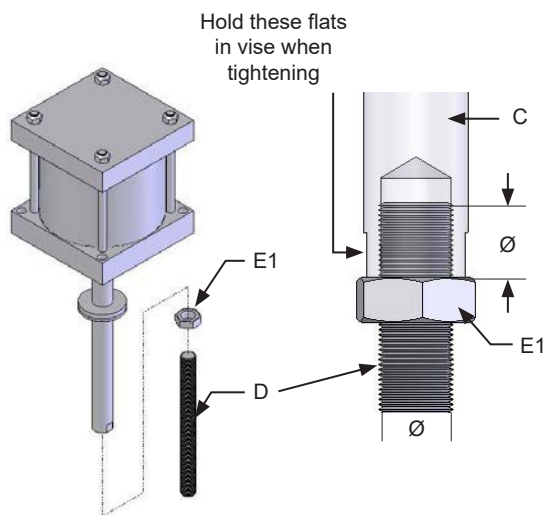

Figure 39. Engagement depth of Stud Extension (Rod Extension shown transparent for clarity)
5. Measure major diameter of STUD EXTENSION (D). Thread STUD EXTENSION (D) into ROD EXTENSION (C), but only as deep as the length of the major diameter of STUD EXTENSION (D). See figure 39, for further clarification. Thread 1ST JAM NUT (E1) onto STUD EXTENSION (D). Hold flats of ROD EXTENSION (C) in vise, and tighten 1ST JAM NUT (E1).